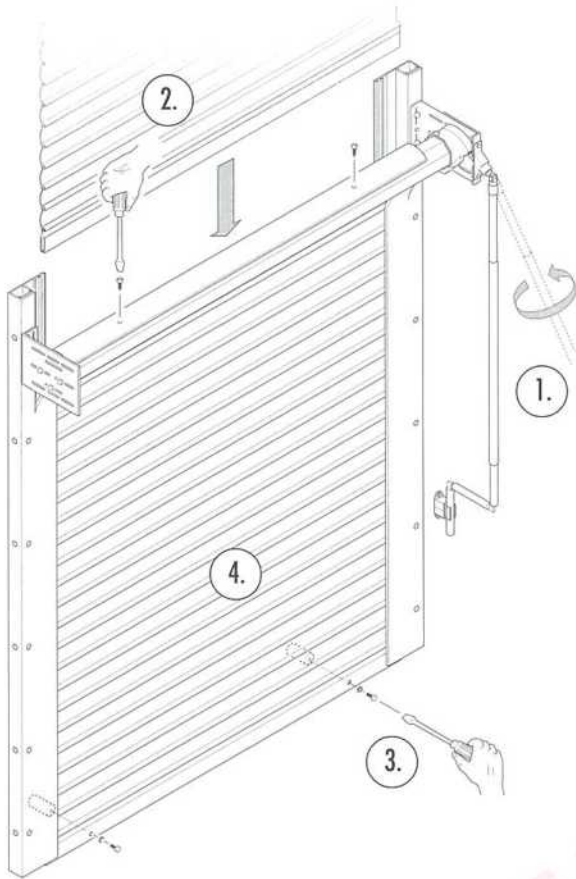

Figure 2A: Models CD 600 and CD 800
2. Lift the Rullari shutter over the axle to the guide rails and attach the roller to the axle to secure the shutter either directly from the top edge (see Figure 2A) or with a retaining spring (see Figure 2B), depending on the model.
4. Ensure that the Rullari shutter can function unhindered. Note clearance max 5 mm (see Figures 2A and B).